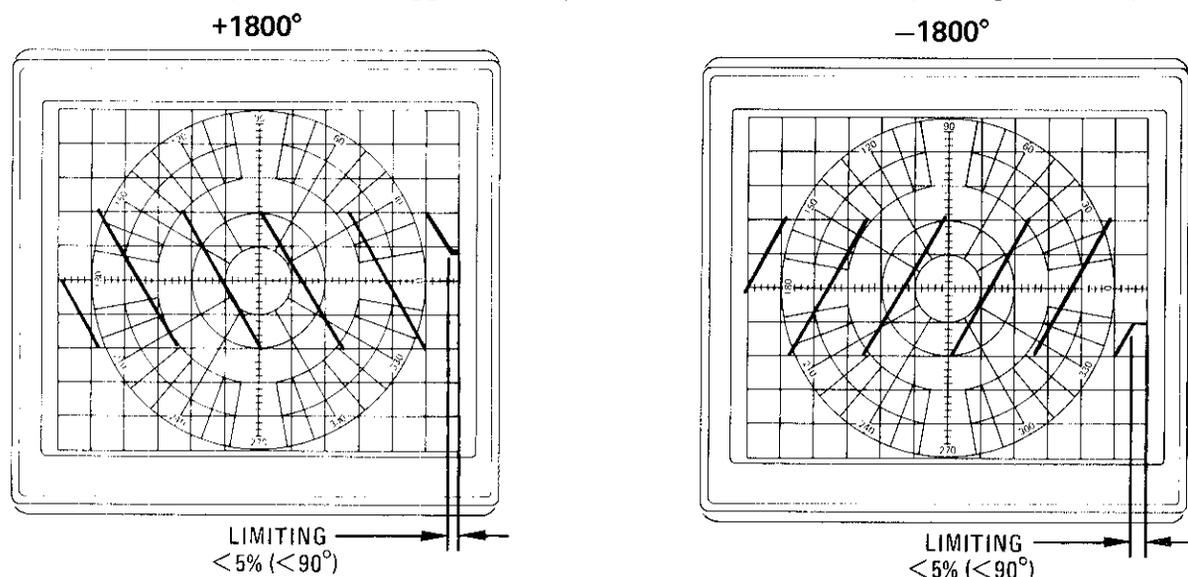

Figure A4-17. Phase Trace with Maximum Electrical Length Added
- o. With ELECTRICAL LENGTH offset pushbuttons, put in +1800 degrees of electrical length. (The electrical length readout displays +180.) Verify that five transitions are displayed and that the linear phase display limits over approximately the last 5% of the trace. (See Figure A4-17, Photo A.)
- q. With ELECTRICAL LENGTH offset pushbuttons, put in -1800 degrees of electrical length. (The electrical length readout displays -180 .) Verify that five transitions are displayed and that the linear phase display limits over approximately the last 5% of the trace. (See Figure A4-17, Photo B.)